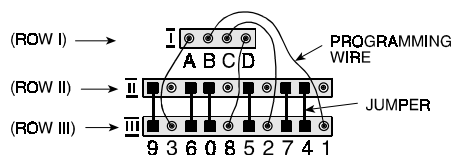

Figure 4. Programming Access Code 3128
Programming of the user's 4-digit security access code is accomplished by linking pins in ROW I to the appropriate pins in ROW III (the digits row) in accordance with the desired code (see Figure 4). Use the 4 wires supplied with the keypad.
**Note:** Each unprogrammed pin in ROW III (pins 0, 4, 5, 6, 7, 9 in Figure 4) must be bridged to the pin just above it in ROW II, using the jumpers supplied with the keypad. For convenience, it is preferable to carry out this bridging operation first and then connect row I pins to the remaining row III pins in the correct order.